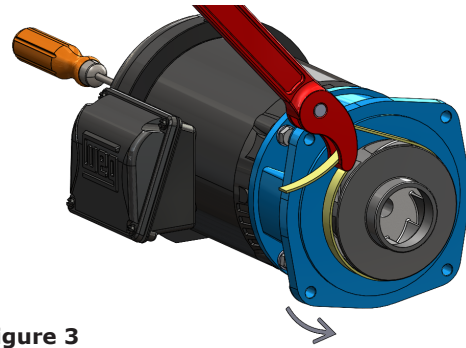

Figure 3
10. Insert a screwdriver in slot of motor shaft end. While holding screwdriver against rotation, use a strap wrench around impeller outer diameter to unscrew the impeller counterclockwise from the motor shaft. (Figure 3)